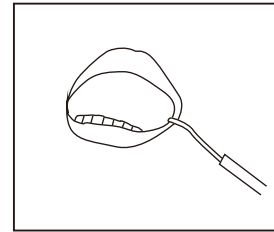

Fig.9
- 4) Link the lip clip to the patient.(Fig.9)